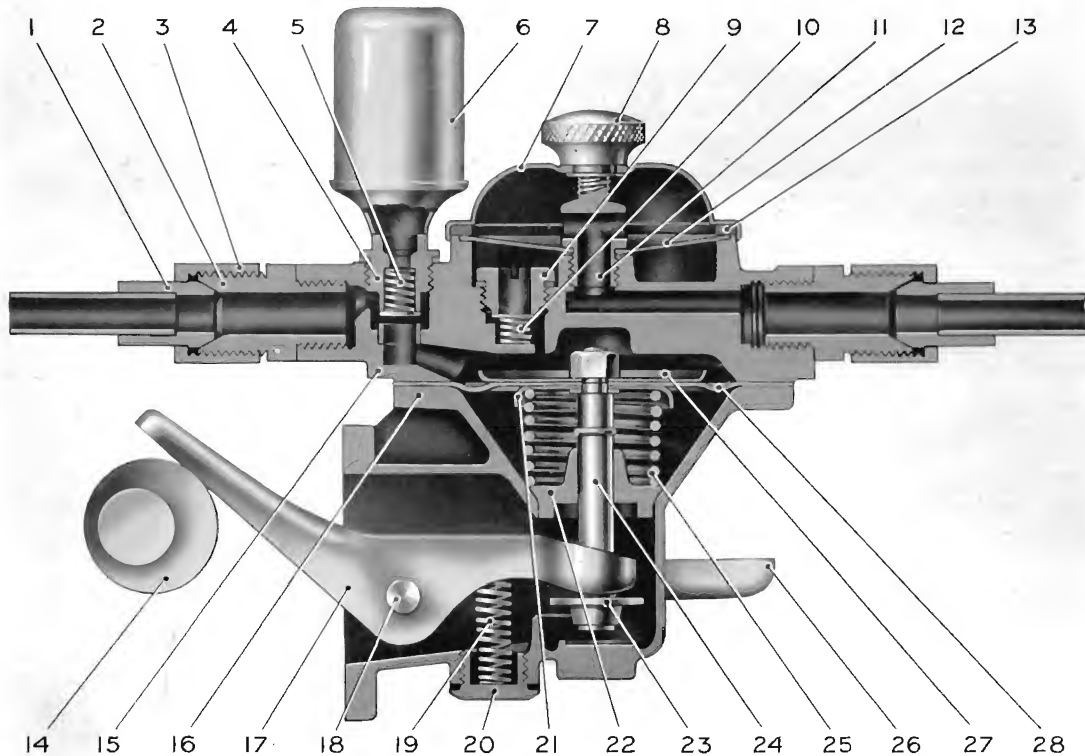

Fig. 12.
Petrol is fed to the carburettor by a small pump fixed to the crankcase and driven by an eccentric on the camshaft. The operating lever (17), Fig. 12, is pivoted at (18), and when the eccentric rotates, the collar (23) is depressed, thus pulling down the diaphragm (28). This creates a vacuum above the diaphragm and petrol is drawn into the pump chamber, whence it passes through the filter (12) and inlet valve (9) into the pressure chamber. When the lever (17) is on the back of the eccentric, the spring (25) pushes the diaphragm up and forces petrol past the outlet valve (4) to the carburettor. A certain level of petrol is maintained in the bowl (6) whilst running,